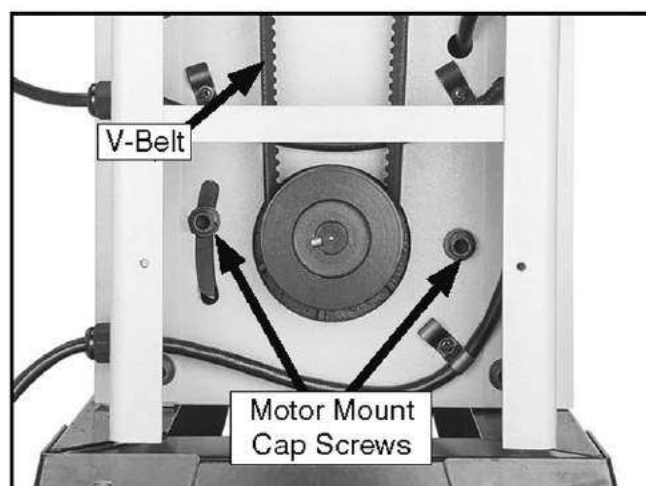

Figure 35. Feed belt V-belt tension.
3. Check tension of V-belt, then adjust tension by loosening motor mount cap screws shown in **Figure 35**.